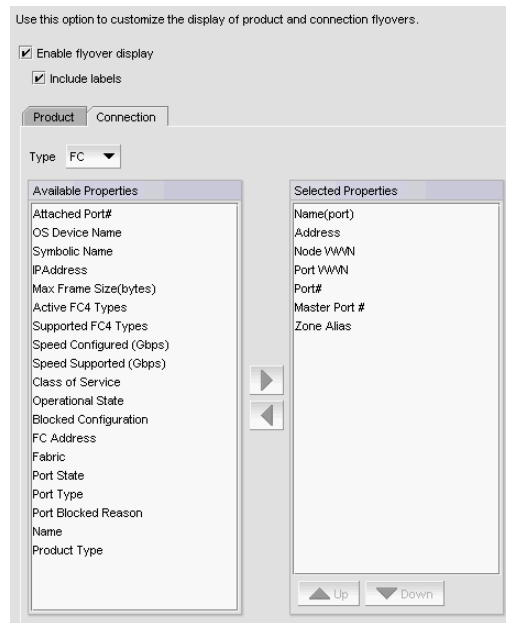

FIGURE 27 Options dialog box (Flyovers pane, Connection tab)
7. Add connection properties you want to display on flyover by selecting the **Connection** tab (Figure 27) and completing the following steps.